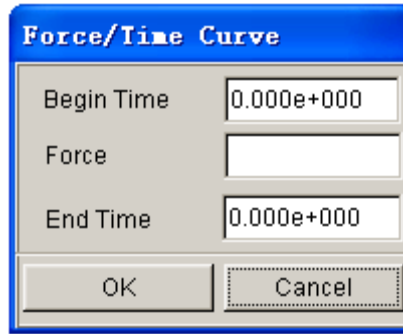

Figure 10.2.8 Auto Force Curve dialog box
- If FORCE CURVE is checked, the FORCE CURVE dialog box (as shown in Figure 10.2.8) is displayed.